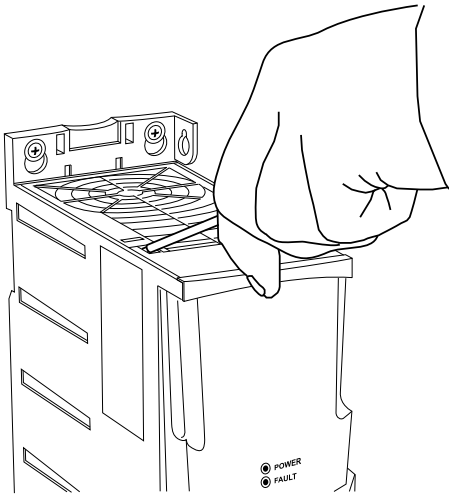

Fig. 38 — Remove Top Cover on ACS320 VFD
2. Insert a small straight blade screwdriver into the slot and press in to release the top cover as shown in Fig. 38.